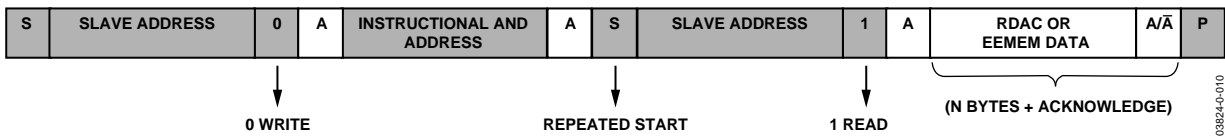
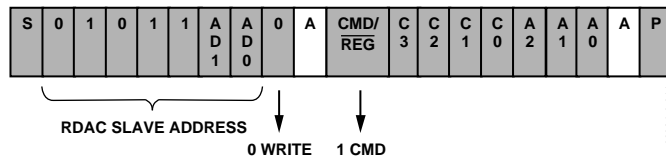
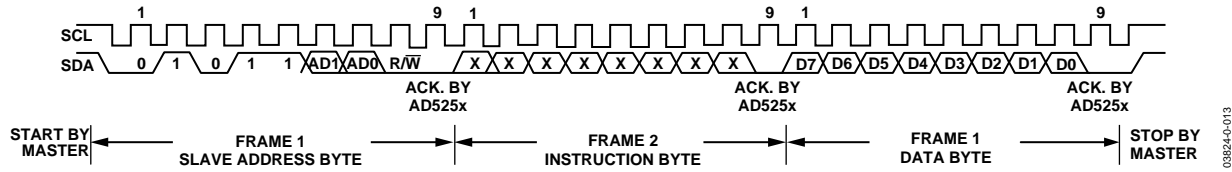
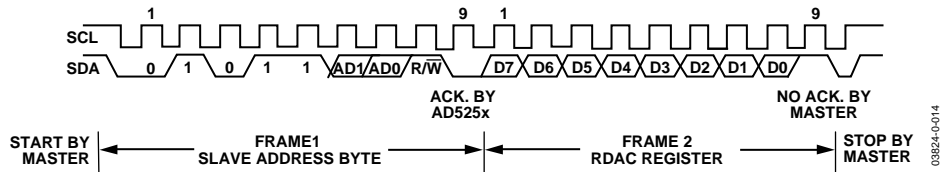

Figure 30. RDAC or EEMEM Random Read
Figure 31. RDAC Quick Command Write (Dummy Write)
Figure 33. General I2C Write Pattern
Figure 34. General I2C Read Pattern
Figure 30 illustrates a random RDAC or EEMEM read operation. This operation allows users to specify which RDAC or EEMEM register is read by issuing a dummy write command to change the RDAC address pointer and then proceeding with the RDAC read operation at the new address location.
The AD5253/AD5254 feature 12 quick commands that facilitate easy manipulation of RDAC wiper settings and provide RDAC-to-EEMEM storing and restoring functions. The command format is shown in Figure 31, and the command descriptions are shown in Table 9.
The first byte of the AD5253/AD5254 is a slave address byte (see Figure 33 and Figure 34). It has a 7-bit slave address and an R/W bit. The 5 MSB of the slave address is 01011, and the next 2 LSB is determined by the states of the AD1 and AD0 pins. AD1 and AD0 allow the user to place up to four AD5253/AD5254 devices on one bus.
AD5253/AD5254 can be controlled via an I2C-compatible serial bus and are connected to this bus as slave devices. The 2-wire I2C serial bus protocol (see Figure 33 and Figure 34) follows:
1. The master initiates a data transfer by establishing a start condition, such that SDA goes from high to low while SCL is high (see Figure 33). The following byte is the slave address byte, which consists of the 5 MSB of a slave address defined as 01011. The next two bits are AD1 and AD0, I2C device address bits. Depending on the states of their AD1 and AD0 bits, four AD5253/AD5254 devices can be addressed on the same bus. The last LSB, the R/W bit, determines whether data is read from or written to the slave device.
the addresses of the EEMEM and RDAC registers (see Figure 27 and Figure 28). When MSB = 1 or when the device is in CMD mode, the four bits following the MSB are C3 to C1, which correspond to 12 predefined EEMEM controls and quick commands; there are also four factory-reserved commands. The 3 LSB—A2, A1, and A0—are 4-channel RDAC addresses (see Figure 31). After acknowledging the instruction byte, the last byte in the write mode is the data byte. Data is transmitted over the serial bus in sequences of nine clock pulses (eight data bits followed by an acknowledge bit). The transitions on the SDA line must occur during the low period of SCL and remain stable during the high period of SCL (see Figure 33).
3. In current read mode, the RDAC0 data byte immediately follows the acknowledgment of the slave address byte. After an acknowledgment, RDAC1 follows, then RDAC2, and so on. (There is a slight difference in write mode, where the last eight data bits representing RDAC3 data are followed by a no acknowledge bit.) Similarly, the transitions on the SDA line must occur during the low period of SCL and remain stable during the high period of SCL (see Figure 34). Another reading method, random read method, is shown in Figure 30.
4. When all data bits have been read or written, a stop condition is established by the master. A stop condition is defined as a low-to-high transition on the SDA line that occurs while SCL is high. In write mode, the master pulls the SDA line high during the 10th clock pulse to establish a stop condition (see Figure 33). In read mode, the master issues a no acknowledge for the ninth clock pulse, that is, the SDA line remains high. The master brings the SDA line low before the 10th clock pulse and then brings the SDA line high to establish a stop condition (see Figure 34).